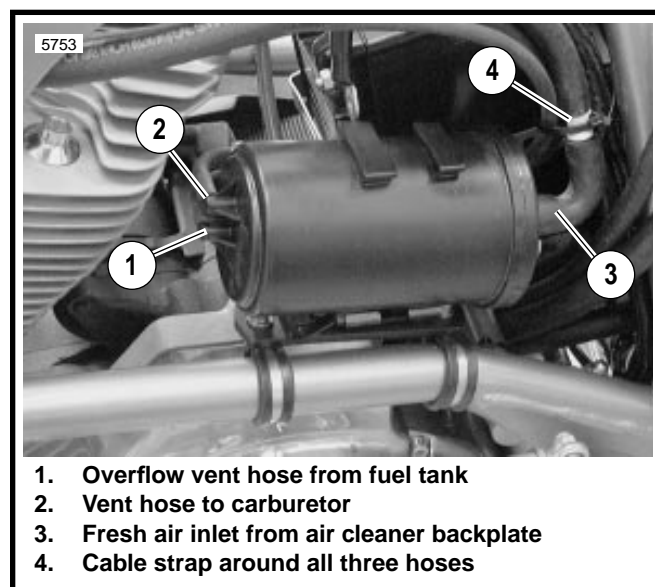
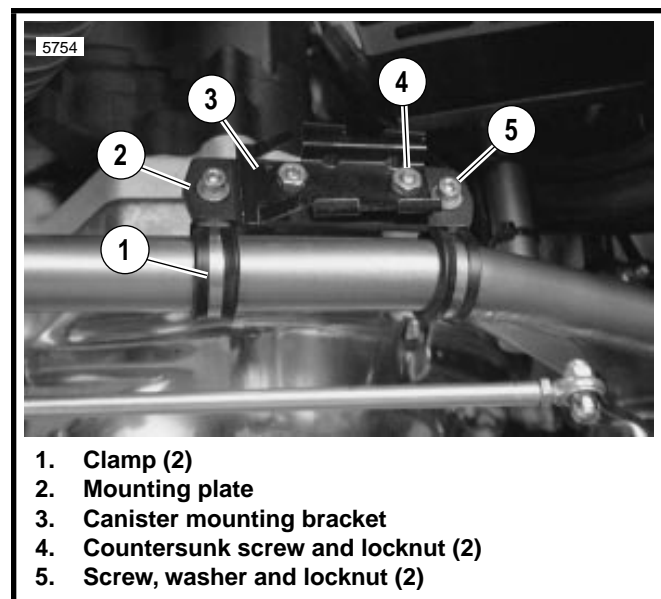

Figure 4-25. Carbon Canister
Figure 4-27. Carbon Canister Mounting
- See Figure 4-25. When the engine is running, carburetor venturi negative pressure (vacuum) slowly draws off the hydrocarbon vapors from the carbon canister through the vent hose. These vapors pass through the carburetor and are burned as part of normal combustion in the engine. The large diameter canister-to-air cleaner hose (canister clean air inlet hose) supplies the canister with fresh air from the air cleaner.
1. See Figure 4-25. The canister assembly mounts on a frame tube along the left side of the motorcycle.
4. See Figure 4-27. Remove screws, washers and locknuts (5) to detach mounting plate (2) from clamps (1).
5. Remove countersunk screws and locknuts (4) to separate bracket (3) from mounting plate (2).
1. See Figure 4-27. Install canister bracket (3) on mounting plate (2) with countersunk screws and locknuts (4).
2. Install mounting plate assembly on frame by attaching mounting clamps (1) using screws, washers and locknuts (2). Tighten to 6-8 ft-lbs (8.1-10.8 Nm).
3. See Figure 4-25. Depress locking tab and slide canister into locked position on canister bracket. Clip on canister bracket must engage canister; bend clip outward somewhat if canister is not held securely.
1. See Figure 4-25. Connect one end of the canister clean air inlet hose to the carbon canister.